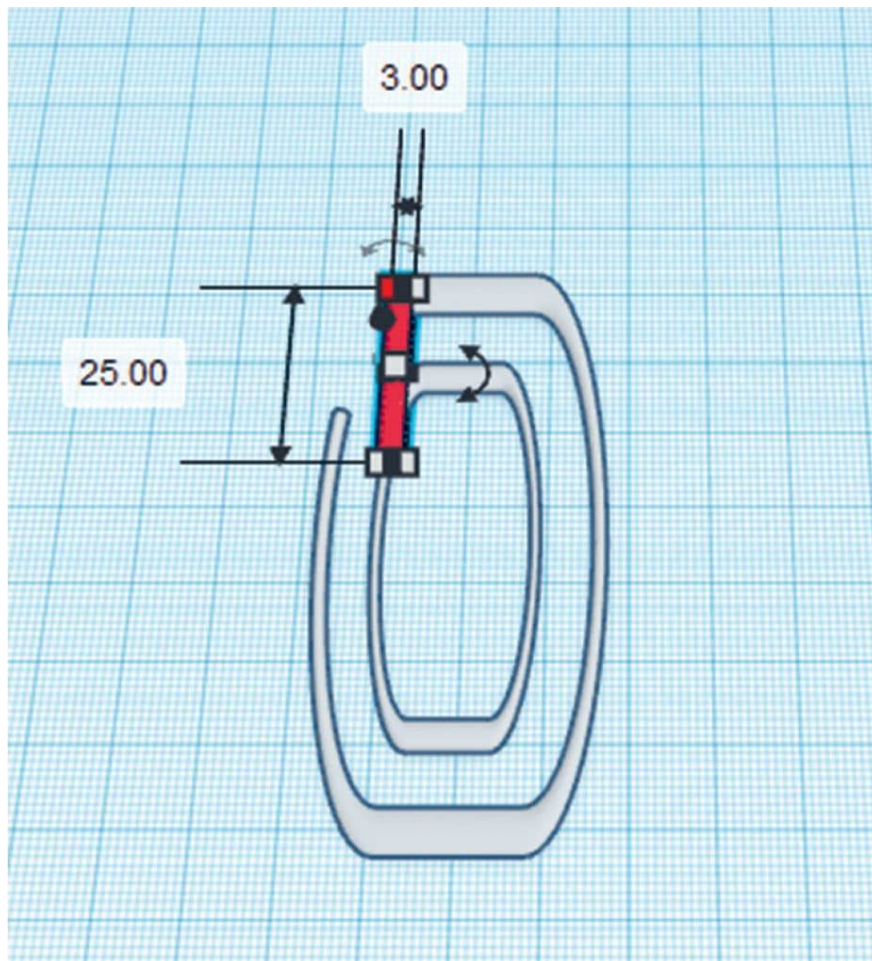

FIG. 3: Connect the two *tori* with a **Rectangular Bar** to create the clip.
3. Connect the two tori using a **Rectangular Bar** as shown in fig. 3.